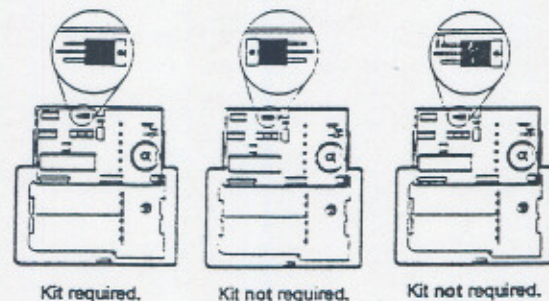

Figure 2. Regulator Location and Position
- 4) Locate the regulator on the circuit board (see Figure 2 drawings). If the regulator is positioned on the circuit board the same way as shown in the first drawing in Figure 2 with the leads facing left, go to the section, "Installing the Kit."